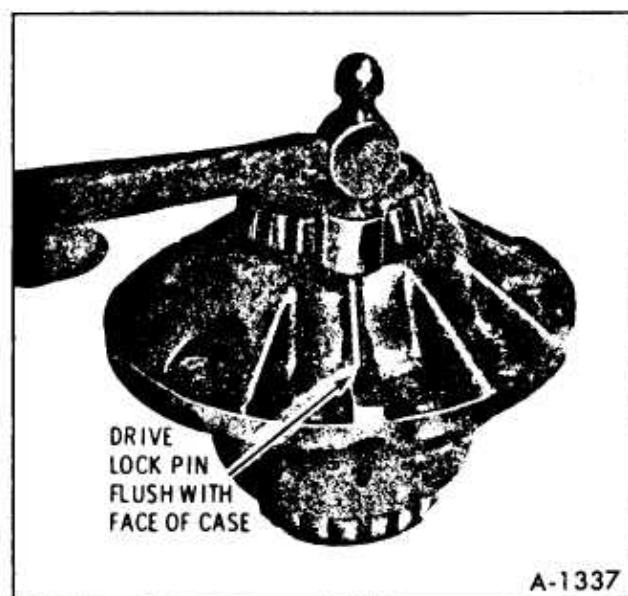

Figure 49—Installing Lock Pin
4. Install pinion shaft. Drive pinion shaft retaining lock pin into position. (figure 49)